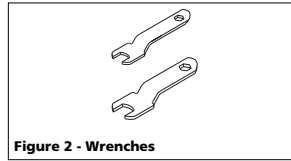

Figure 2 - Wrenches
2. **Securely tighten collet with wrenches (supplied with some models) (See Figures 2 & 3).**